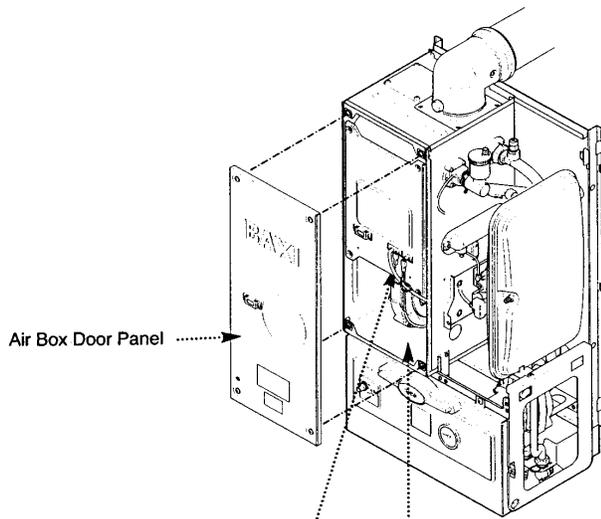

Fig. 63
1. Remove the airbox door panel by loosening the four ¼ turn screws (Fig. 63).